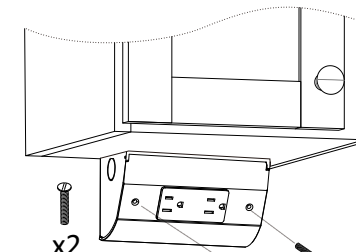

Fig. 8
4. Place the cover on top and secure it using slotted flat head screws (Fig. 8).